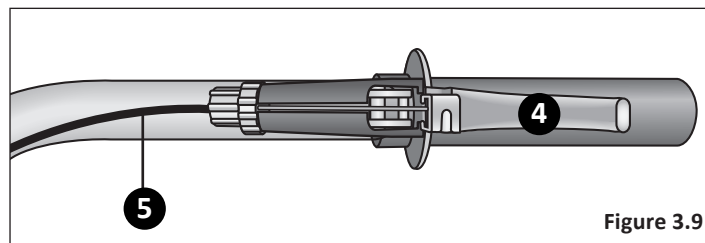

Figure 3.9
- 4** Release the brake lever. **Figure 3.9**